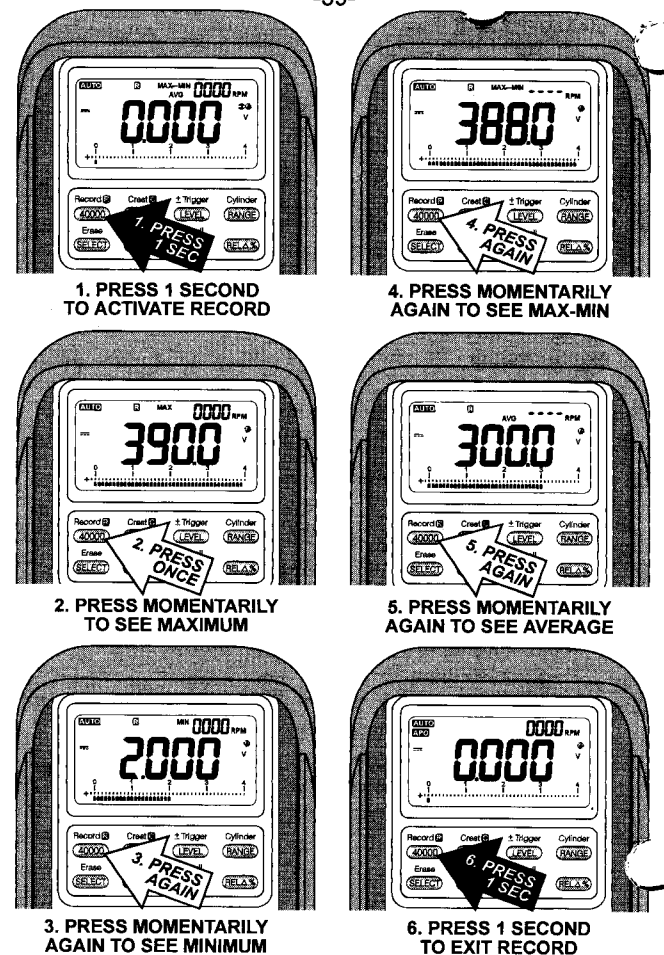

FIG 16. RECORD MODE
1) Perform measurements as described in BASIC OPERATION. Press and hold the **Record** button for 1 second or more to activate Record mode with LCD annunciators **MAX-MIN** and **AVG** turn on. The meter beeps when new maximum or minimum reading is updated. Press the button momentarily to read throughout the Maximum (MAX), Minimum (MIN), Maximum minus Minimum (MAX-MIN), and Average (AVG) readings. Press the button for 1 second or more to exit Record mode. See **FIG 16**